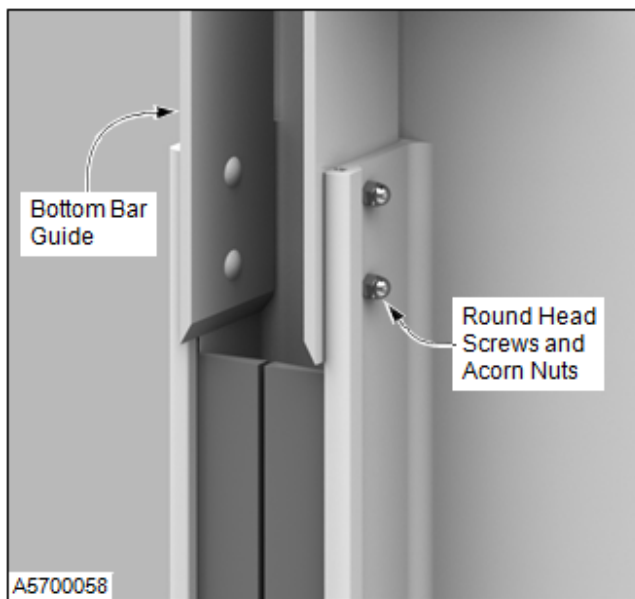

Figure 44
2. Remove the bottom bar guide(s) from the side column. (See Figure 44)